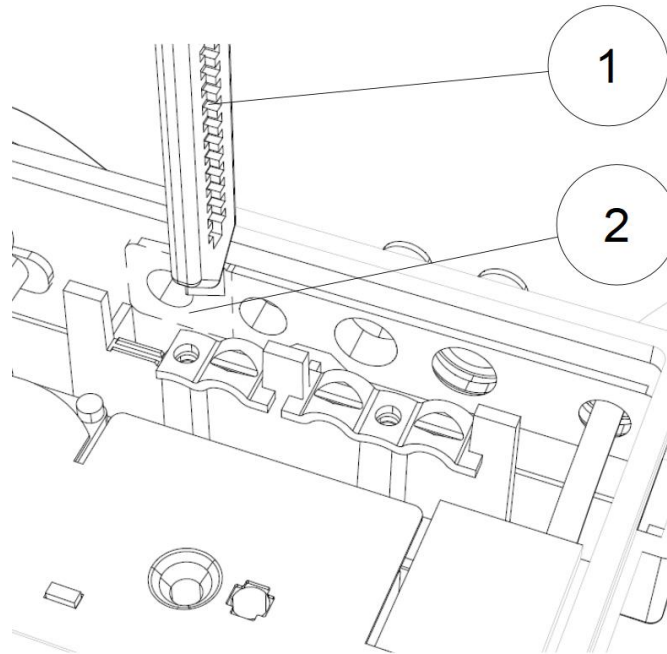

Figure 6: Remove rubber seal
The antenna is used to increase the mobile network coverage of the CMi2110. Use a scalpel (1) to cut off and remove the rubber seal (2) from the L+G UH50 enclosure, as illustrated by Figure 6.